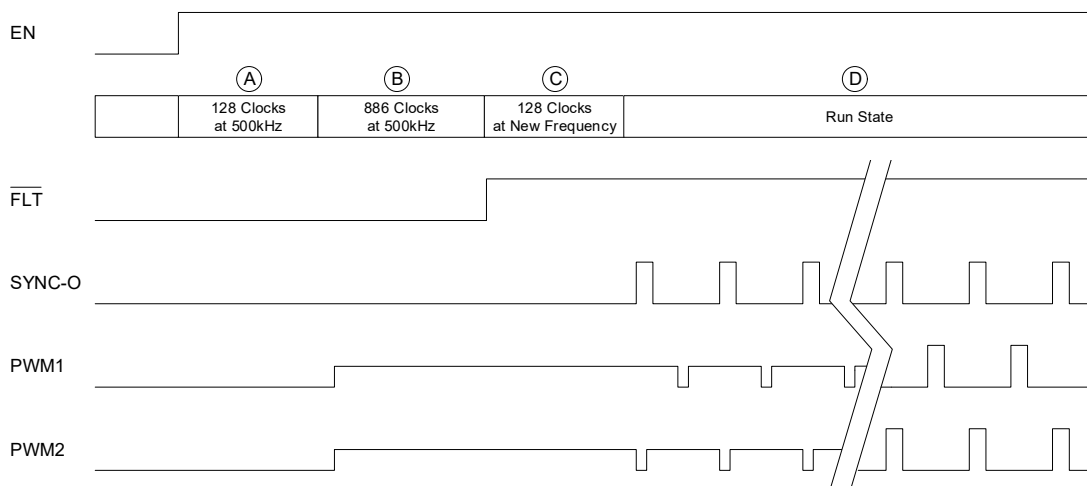
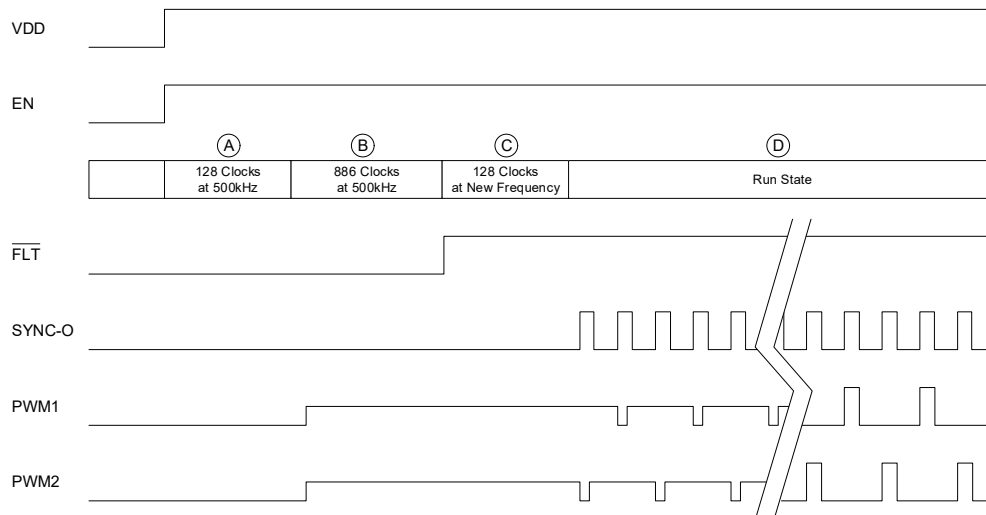

Figure 45. Start-Up Timing Diagram (R_{SYNC-O} = OPEN)
Figure 46. Start-Up Timing Diagram ($R_{\text{SYNC-O}} = 100\text{k}\Omega$)
When the ISL73847SEH first powers up, it goes through several states before boot refresh and soft-start. After VDD has crossed the rising UVLO threshold, the oscillator waits for 128 clock cycles at 500kHz before allowing the digital core to enter its configuration state. The configuration state lasts 886 clock cycles at 500 kHz. When the digital core completes its configuration, it signals the oscillator to switch to the frequency set by the FS pin or SYNC-I. After an additional 128 clock cycles at the new frequency, boot refresh pulses commence, followed by soft-start. Figure 45 and Figure 46 illustrate the start-up sequence.
During states A and C in Figure 45 and Figure 46, the oscillator blanks the clock signal to the digital core. Therefore, the oscillator has time to stabilize its frequency before entering the configuration state (B) or run state (D).